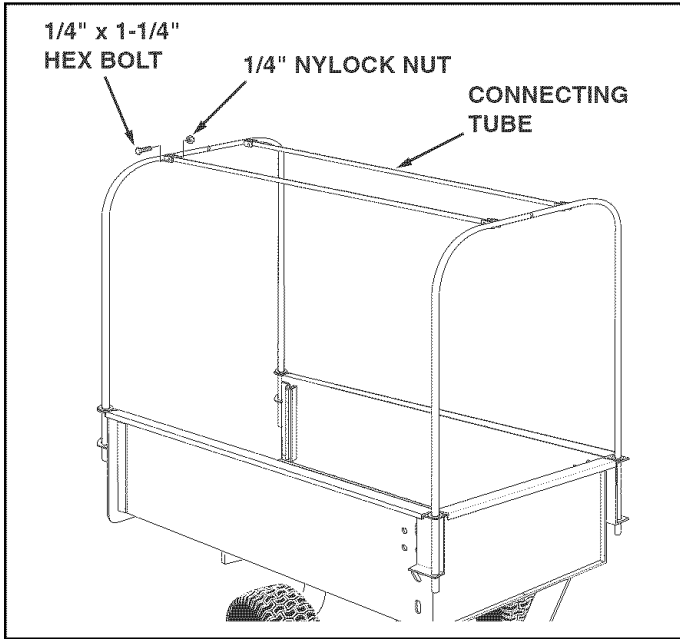

FIGURE 12
- Assemble the top connecting tubes to the support tubes using four 1/4" x 1-1/4" hex bolts and 1/4" nylock nuts. **Tighten** until the end of the bolt extends through the nut. See Figure 12.